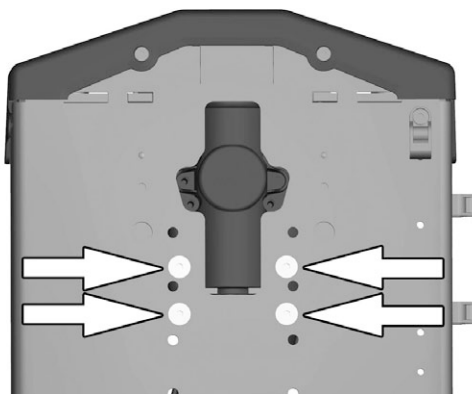

Figure 129. Assemble the actuator stabilizer using the four screws.
7. Assemble the actuator stabilizer using the four screws. See fig. 129.